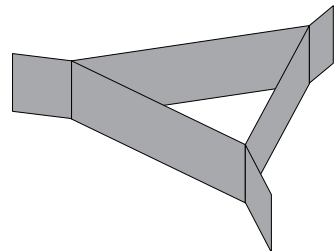

Figure 13
6. Assemble the platform pieces into a triangle by taping the tabbed ends together (Figure 13). Make sure the notches on each piece face the same direction.